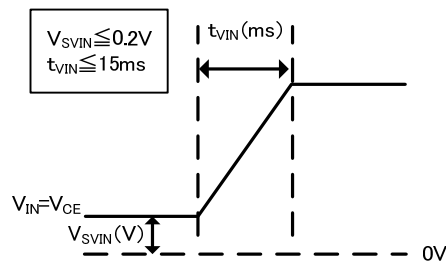

Figure 1. (Recommended for input wave form for $V_{IN}=V_{CE}$)
- As for power-on, when CE pin is used with connecting to V_{IN} pin, V_{IN} - V_{CE} voltage should begin rising from below 2.0V. Rise time should be less than 15ms. (Please refer to Figure 1.)